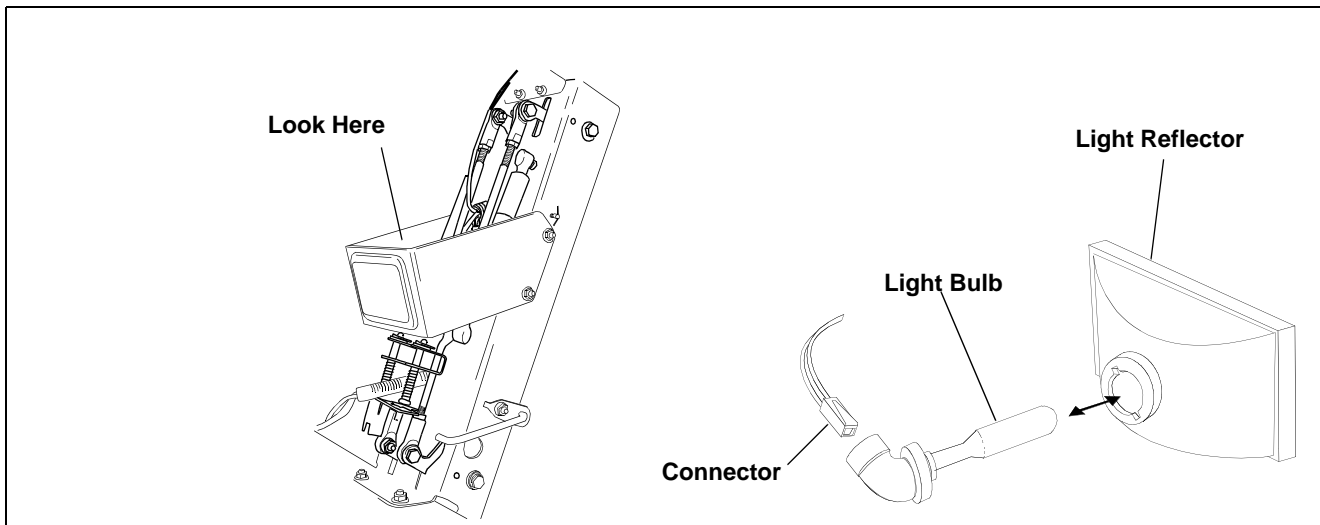

Figure 18
8. Locate the rear of the light fixture where the wire attaches. (See Figure 18)
9. Remove the wire from the light bulb assembly. (See Figure 18)